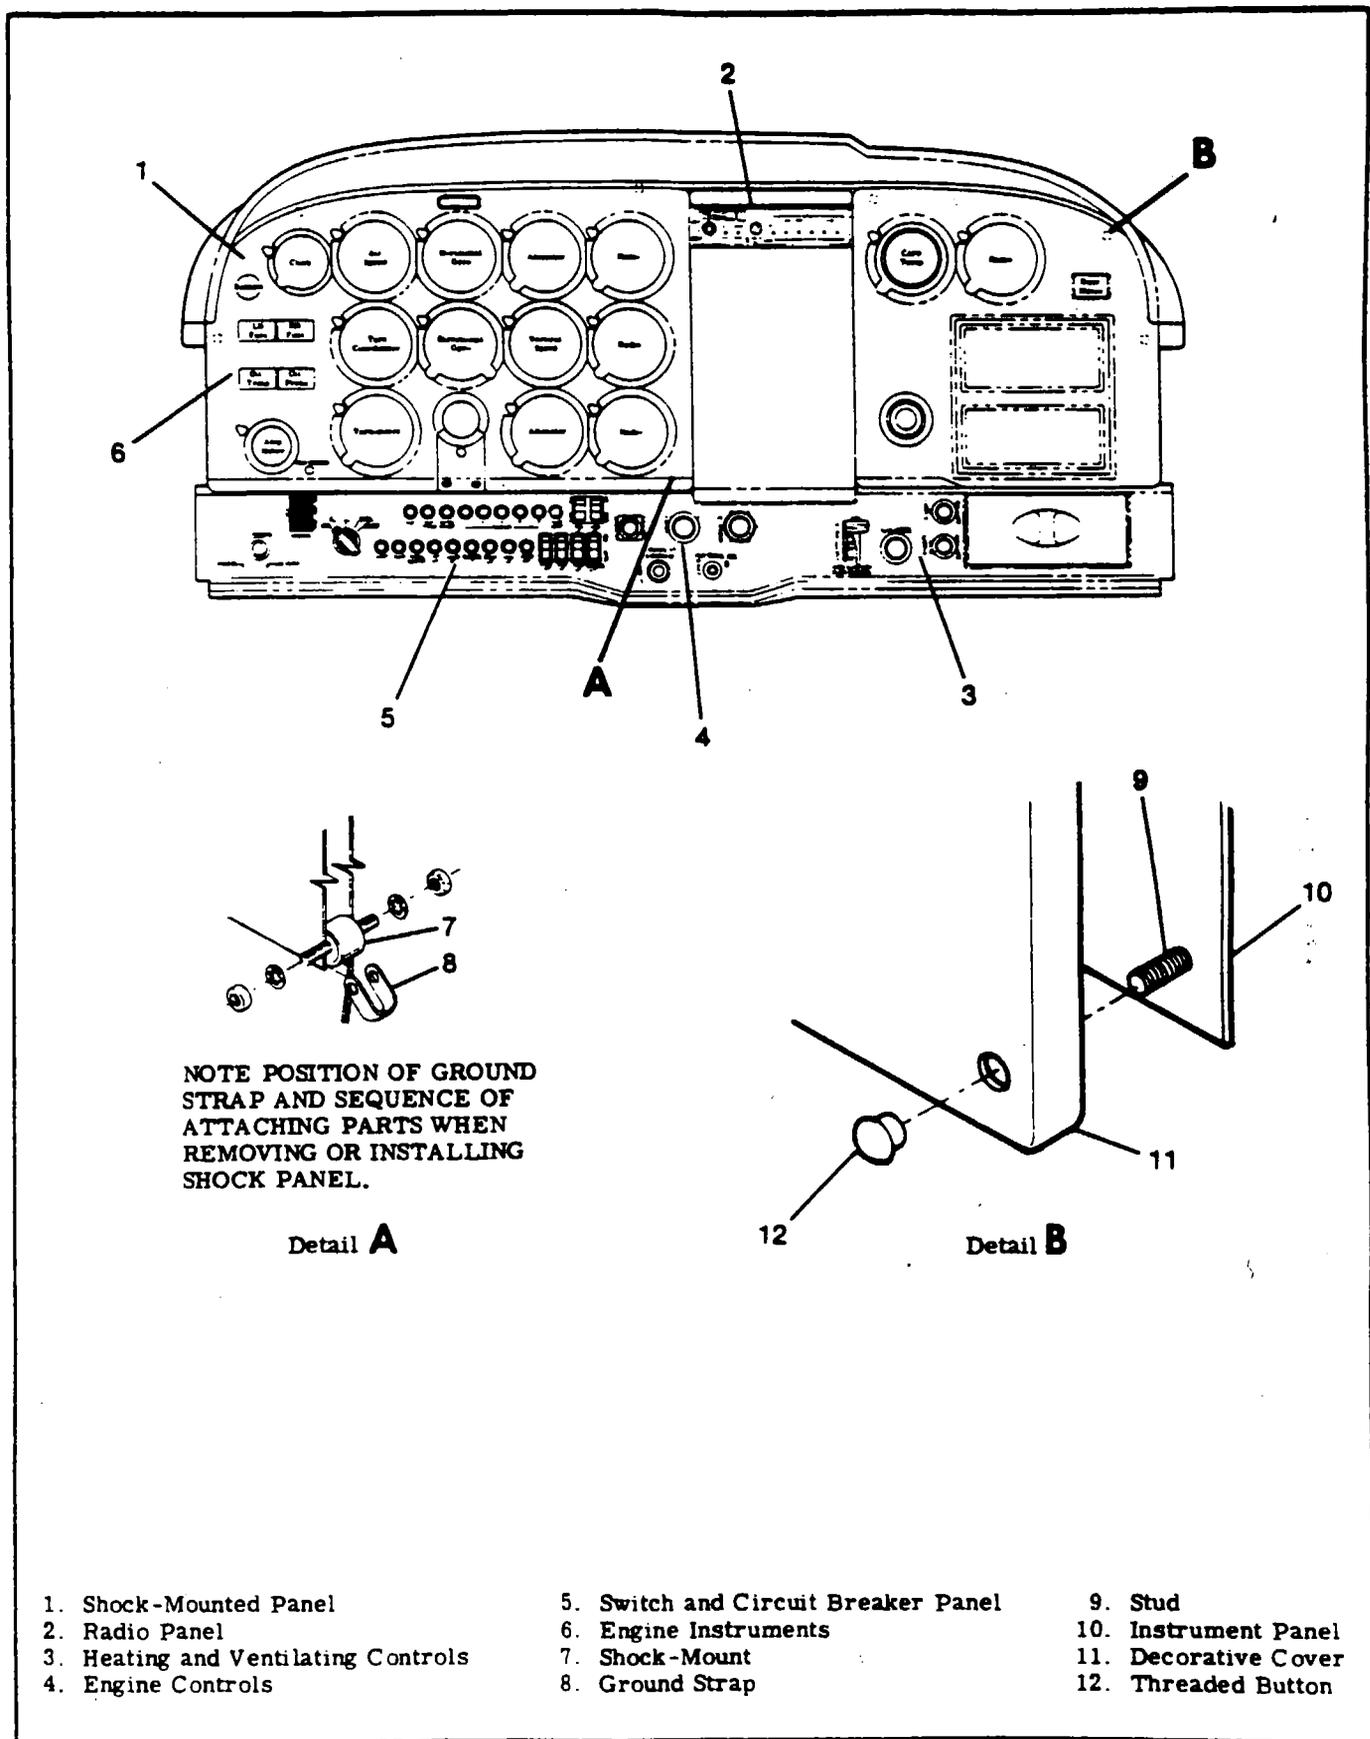

Figure 15-1. Typical Instrument Panel
- 15-5. REMOVAL AND INSTALLATION. (See figure 15-1.) The stationary panel is secured to engine mount stringers and a forward fuselage bulkhead and ordinarily is not considered removable. The shock-mounted panel is secured to the stationary panel with rubber shock-mounted assemblies. To remove shock-mounted panel proceed as follows:
- 15-8. REMOVAL. (See figure 15-1.) Most instruments are secured to panel with screws inserted through panel face. To remove an instrument, remove decorative cover, disconnect wiring or plumbing to the instrument, remove mounting screws and take instrument out from behind, or in some cases, from front of panel. Instrument clusters are installed as units and are secured by a screw at each end. A cluster must be removed from panel to replace an individual gage. In all cases when an instrument is removed, disconnected lines or wires should be protected. Cap open lines and cover pressure connections on instrument to prevent thread damage and entrance of foreign matter. Wire terminals should be insulated or tied up to prevent accidental grounding or short-circuiting.